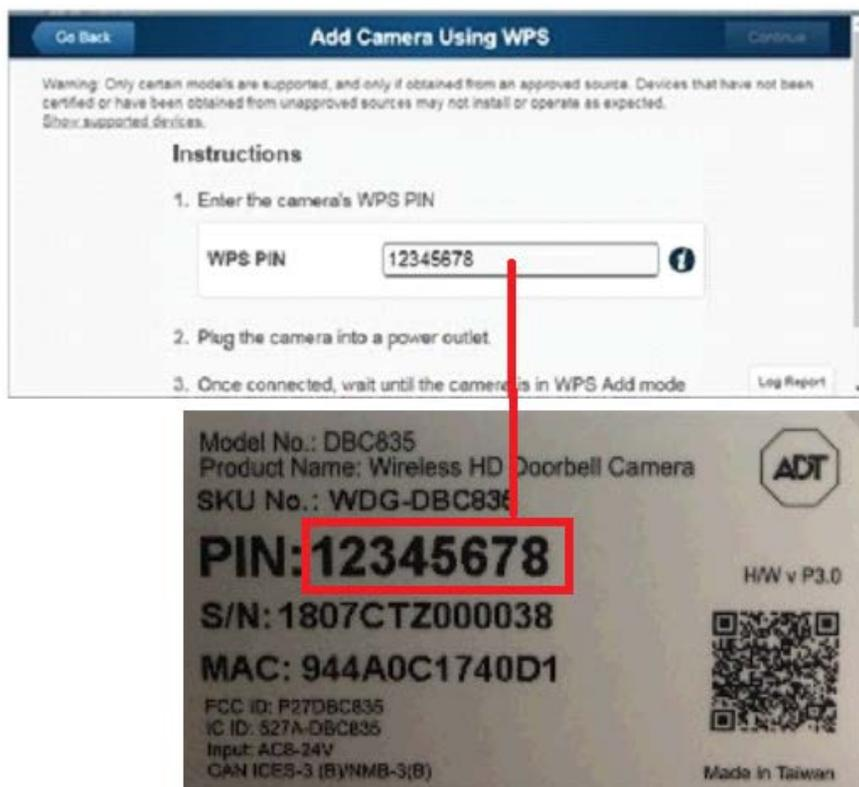

Figure 3-3 Entering the PIN
6. Locate the camera PIN number on the label on the rear of the camera. Enter the PIN number in the WPS PIN field as shown in Figure 3-3.